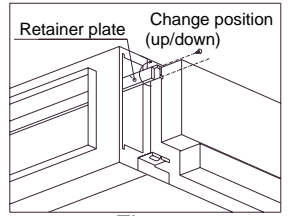

Fig.2
- When using filter box PAC-KE63-80-140TB-F (using filter: high-performance filter), change the position (up/down) of the retainer plate. (Fig. 2.)